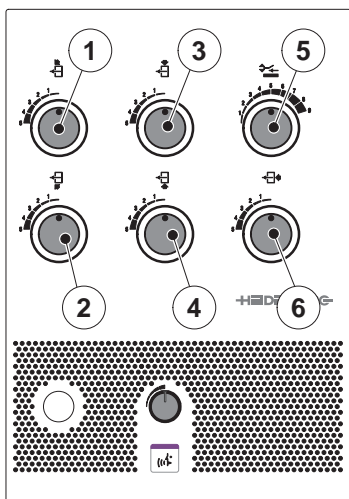

Fig. 35 Feeder air control control panel
The control knob (Fig. 35/6) on the feeder air control control panel enables you to adjust the pre-separation air in the suction head area.
1. Adjust the total air volume on the control knob (Fig. 35/6) such that the upper sheets of the pile are slightly fanned. Ensure that the fanned sheets do not float too much.